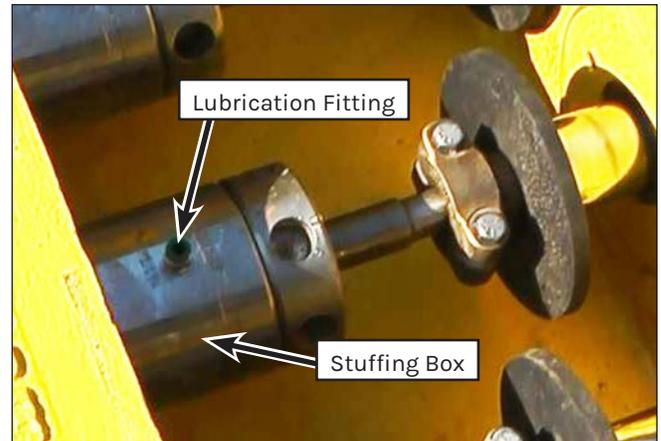

Figure 69: Lubrication Line Fittings.
18. Apply Teflon tape to the threads of the lubrication line fittings (Figure 69). Install the fittings onto the stuffing boxes.